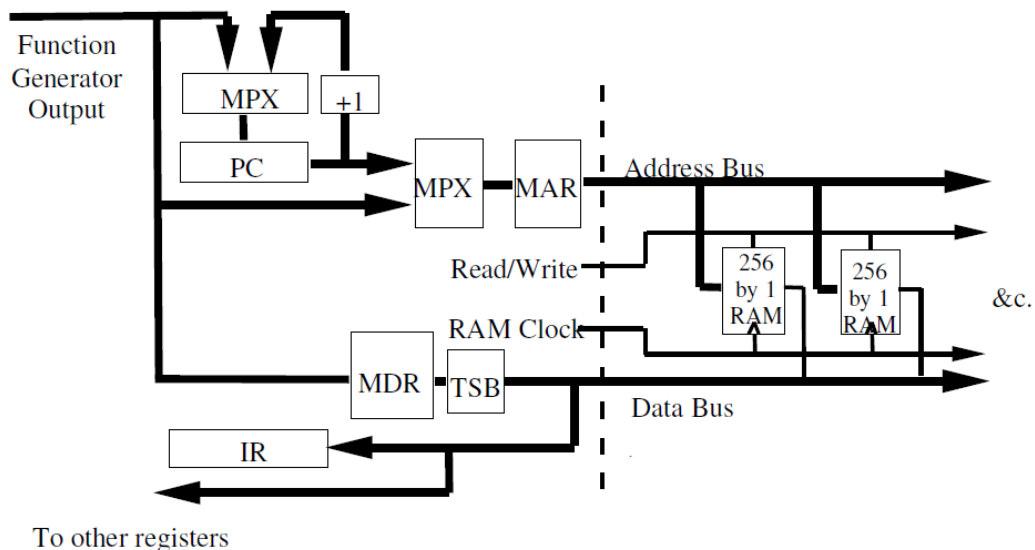

Figure 4: Connecting the Processor to the Memory
For the purposes of connecting some RAM to our processor we need to introduce special processor registers. One of these will hold the address that we wish to send to (or receive from), and this is the Memory Address Register (MAR), and another will hold the data to be sent to the RAM or received from it, and this is called the Memory Data Register (MDR) and sometimes the Memory Base Register (MBR). Additionally we introduce two registers which are associated with getting program instructions (as opposed to data) from the memory. These are called the Program Counter (PC) which stores the address of the next program instruction to be executed, and the Instruction Register, which will act as a store for the program instructions. The IR (which we also showed in the data path diagram for the manual processor) will be decoded to determine the function of the central processor. The arrangement is shown in Figure 4. Since we have opted to use  $256 \times 1$  bit static RAMs we will need eight of them to store complete bytes of data. To keep things simple we will make the memory work in synchronisation with the system clock. To write data will require one clock cycle, and we assume that the memory logic is sufficiently fast so that we can read it within one cycle.